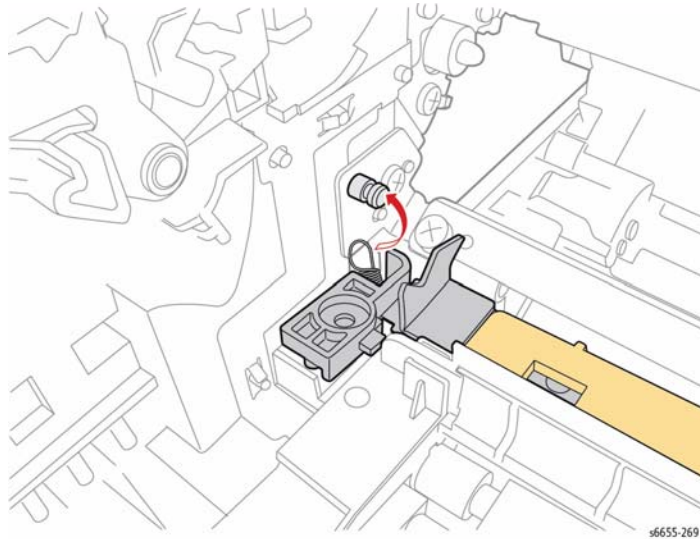

Figure 3 Install the Right CTD Guide and Attach the Right CTD Spring
- Referring to Figure 3, be sure to keep the right CTD Spring pointed up in a vertical position when installing the Right CTD Guide.